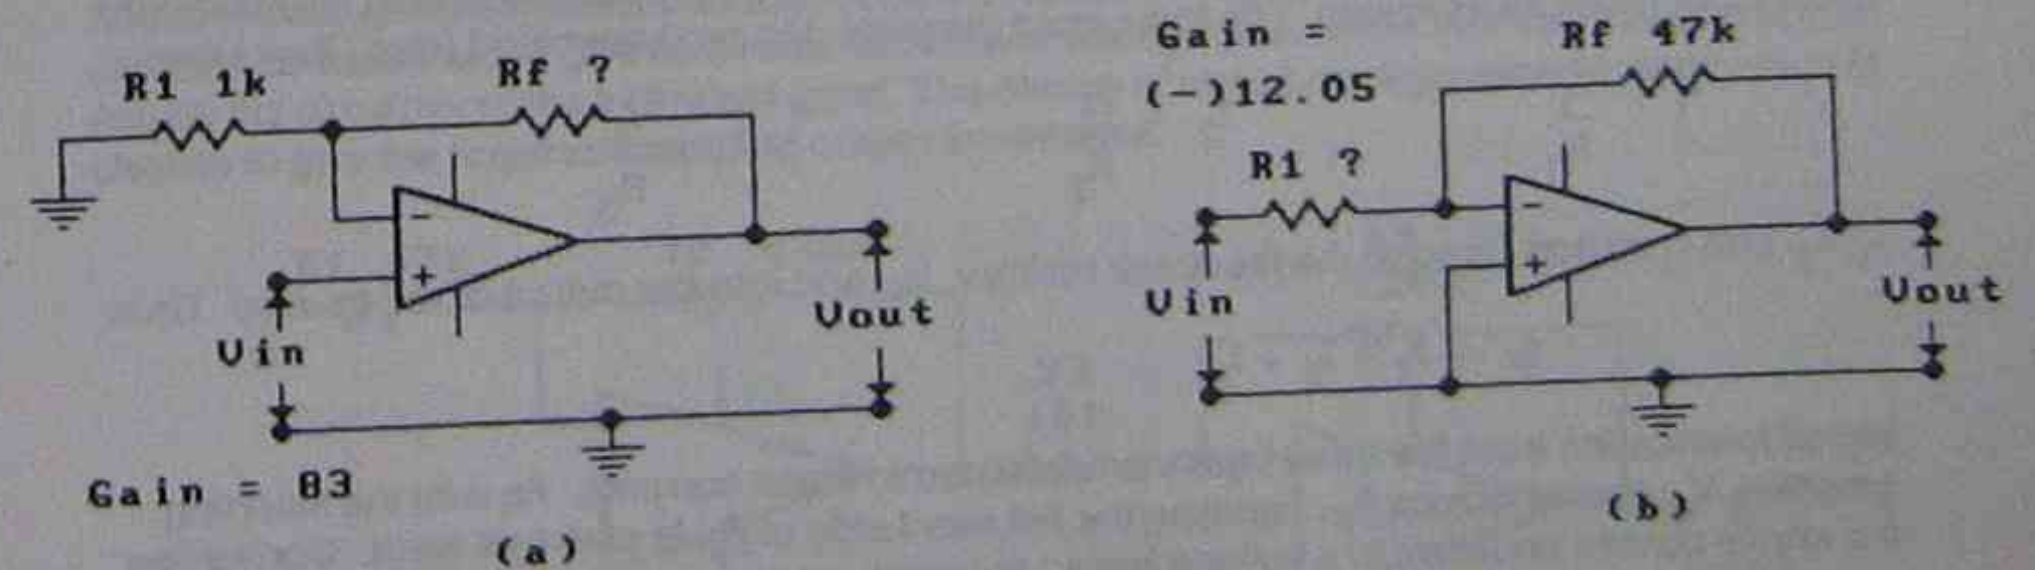

Fig. 2.
3. Assuming ideal op amps, determine the value of the resistor marked (?) required to set the gain to that specified for each circuit of Fig. 2.